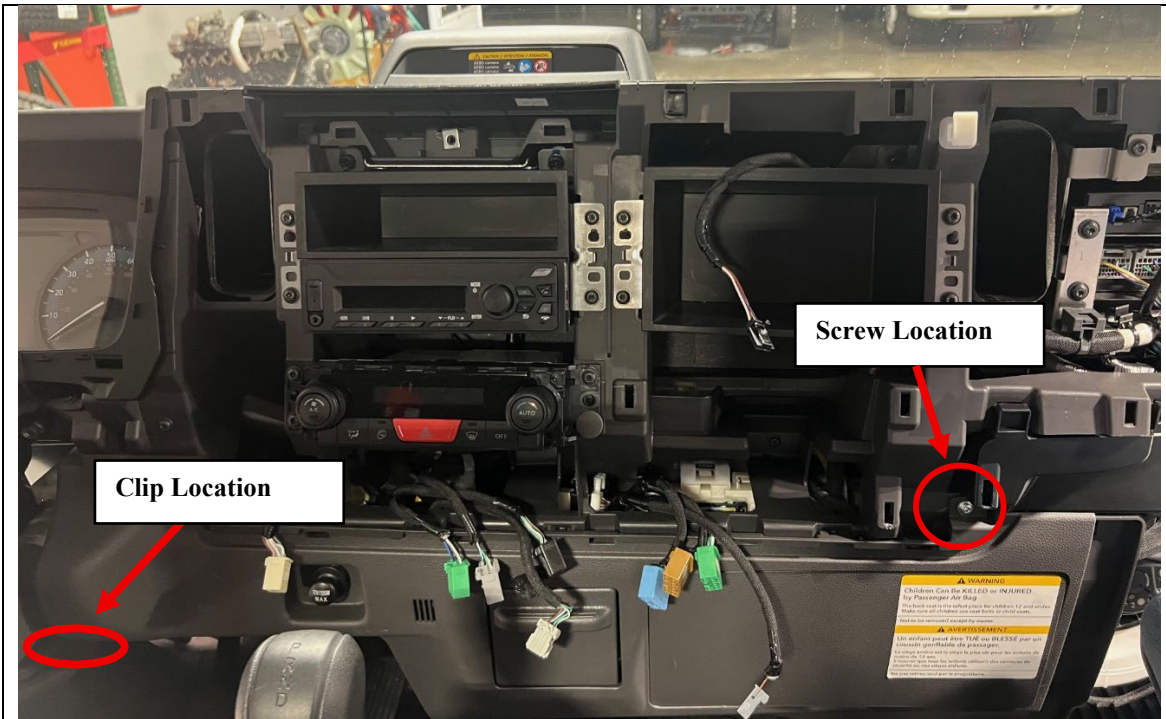

Figure 21
- 29. Install the lower instrument panel under cover and ensure all the clips are engaged. Install the screw and the plastic clip. (See Figure 21.)